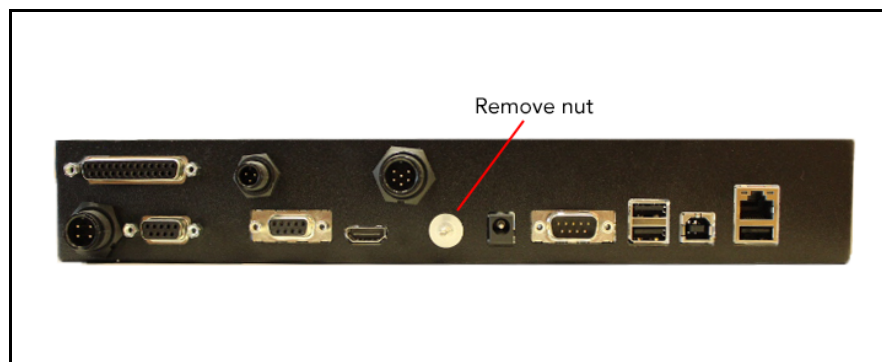

Figure 58
5. Locate the controller (the black box located below the gate's home position). Remove the nut using an 11/32" nut driver (see Figure 58).